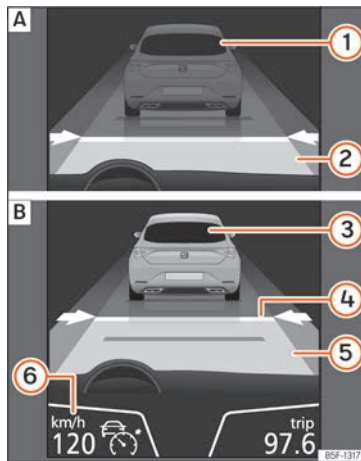

Fig. 163 On the instrument panel display: **A** ACC inactive (Standby). **B** ACC active.
Indications on the display » Fig. 163:
When the ACC is connected, the green control lamp  will light up on the instrument panel, and the programmed speed and ACC status will be displayed **» Fig. 163**.
- Then press the button **SET** **» Fig. 165**. At this moment the ACC is activated and the current speed and distance are programmed. The picture in the box will change to Active mode **» Fig. 163 [B]**.
- To programme the speed press the button **+** or **-** up to the desired speed **» Fig. 163 [C]**. The speed adjustment is made at 10 km/h (5 mph) intervals.
The instrument panel screen displays the selected distance level **» Fig. 163 [4]**. There are 5 distance levels to choose from. SEAT recommends level 3. The set distance can be changed when the vehicle is stopped or while driving **» [A]**.